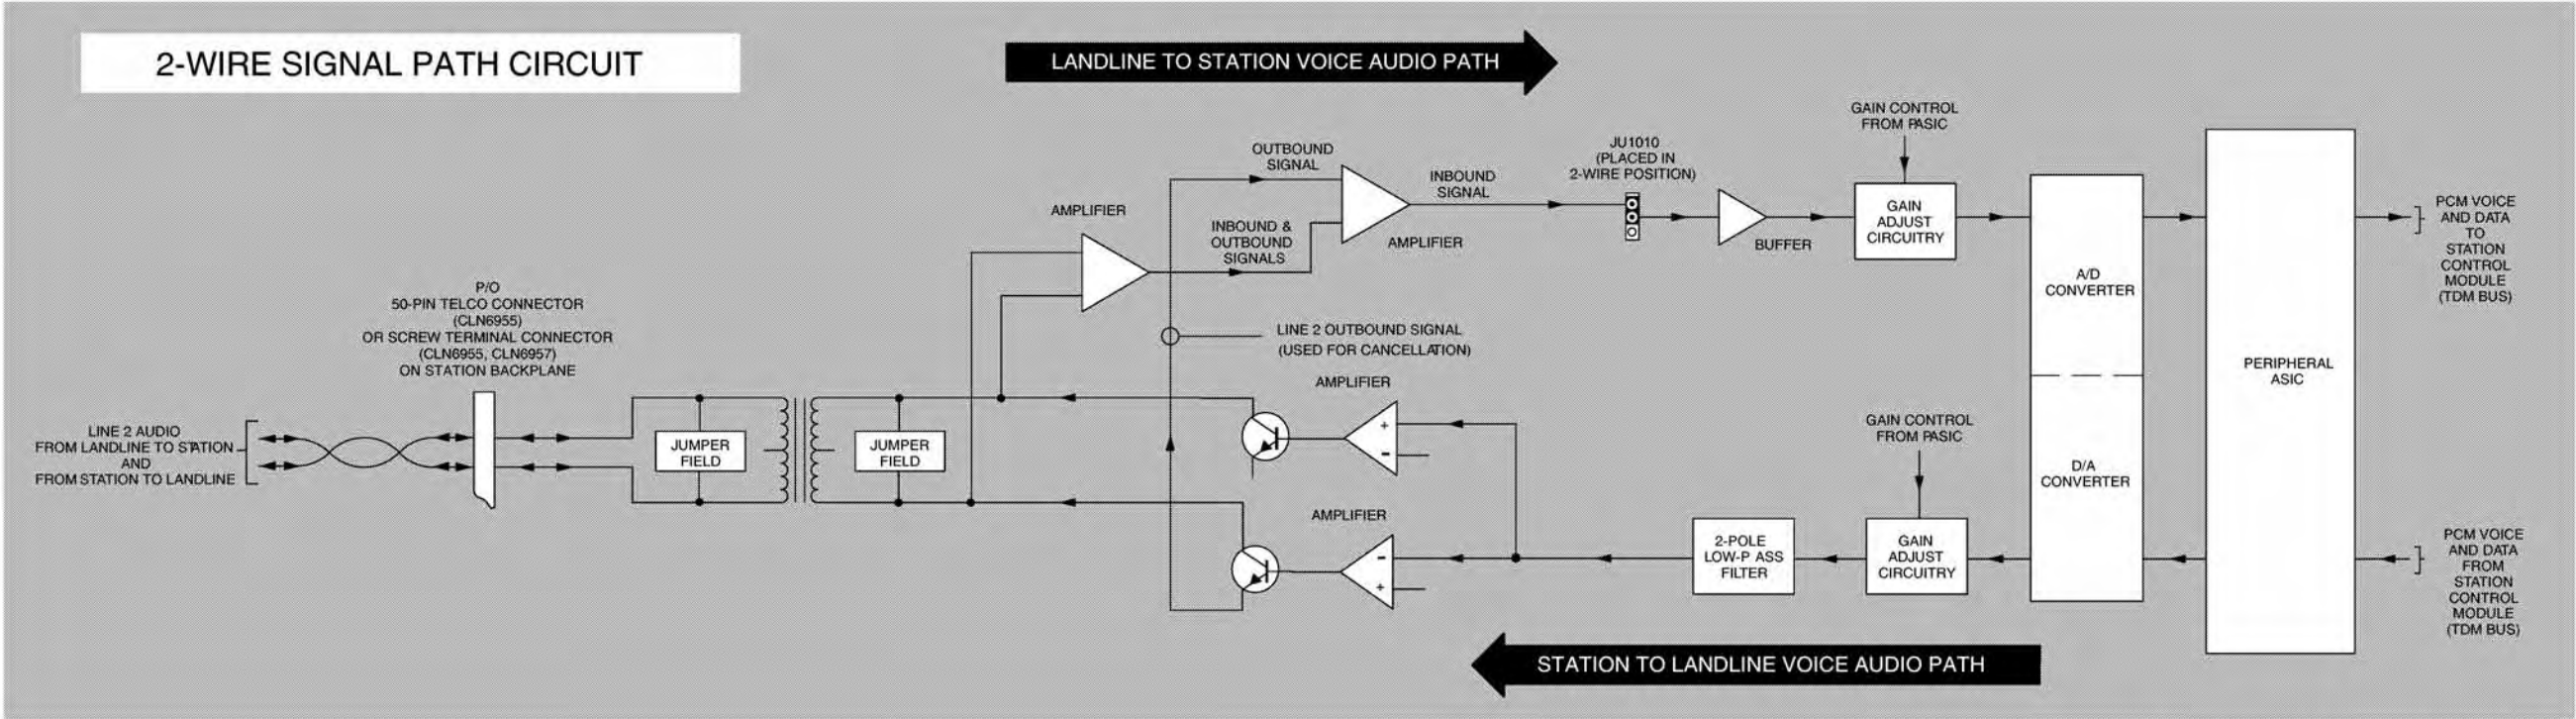
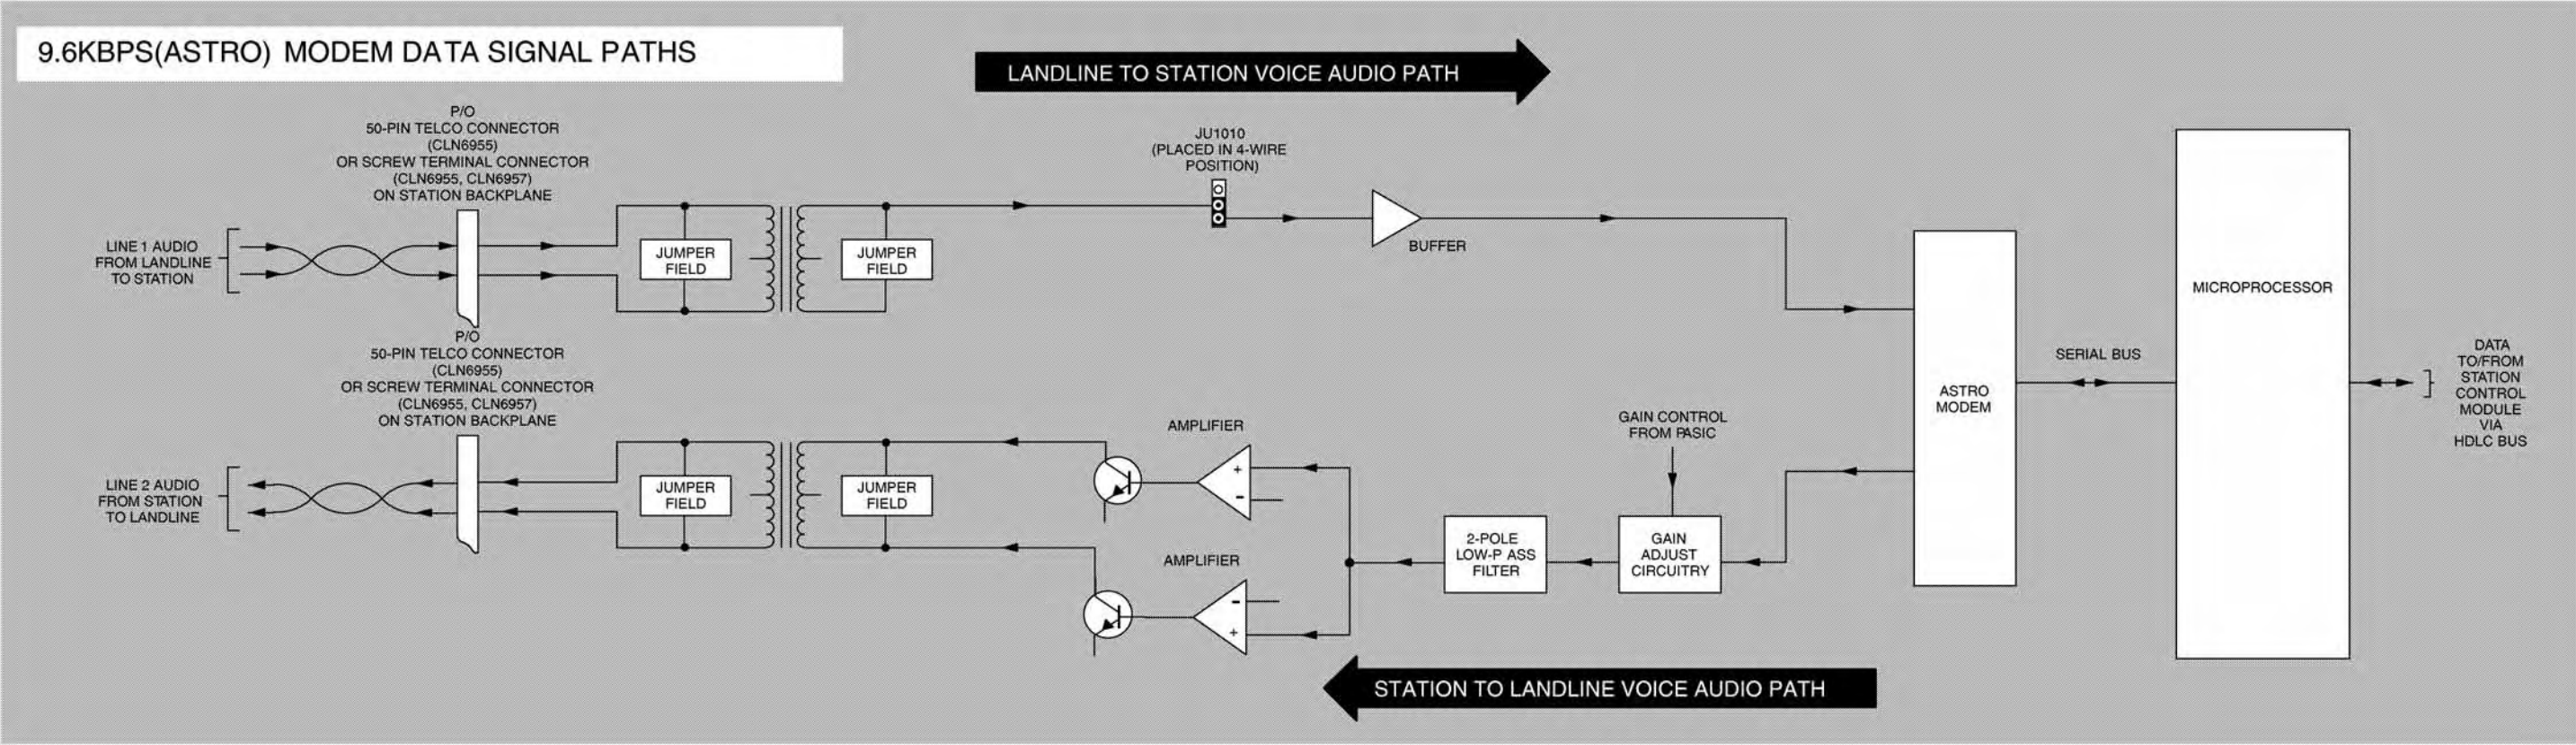

Figure 3 2-Wire Voice Audio Path Functional Block Diagram
Figure 5 9.6kbps (ASTRO) Modem Data Signal Path Functional Block Diagram
9.6KBPS (ASTRO) Modem Data Path (Refer to Figure 5)
The following theory of operation describes the operation of the WIB circuitry at a functional level. The information is presented to give the service technician a basic understanding of the functions performed by the module in order to facilitate maintenance and troubleshooting to the module level. Refer to Figure 2 for an overall block diagram of the WIB, and Figure 3 through Figure 5 for block diagrams for 2-wire voice, 4-wire voice, and 9.6kbps (ASTRO) signal paths.